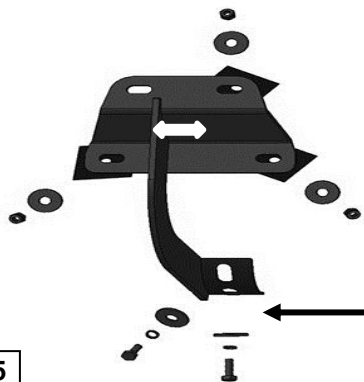

Fig 5
5. Select the passenger/right Sidebar. Carefully position the Sidebar onto the (3) Mounting Brackets. **IMPORTANT:** Do not slide, (front to back or rotate), the Sidebar on the Brackets or damage to the finish on the Sidebar may result. Attach the Sidebar to the Mounting Brackets with (6) 8mm x 25mm Hex Bolts, (6) 8mm Lock Washers and (6) 8mm Flat Washers, **(Figure 5)**. Do not tighten hardware.